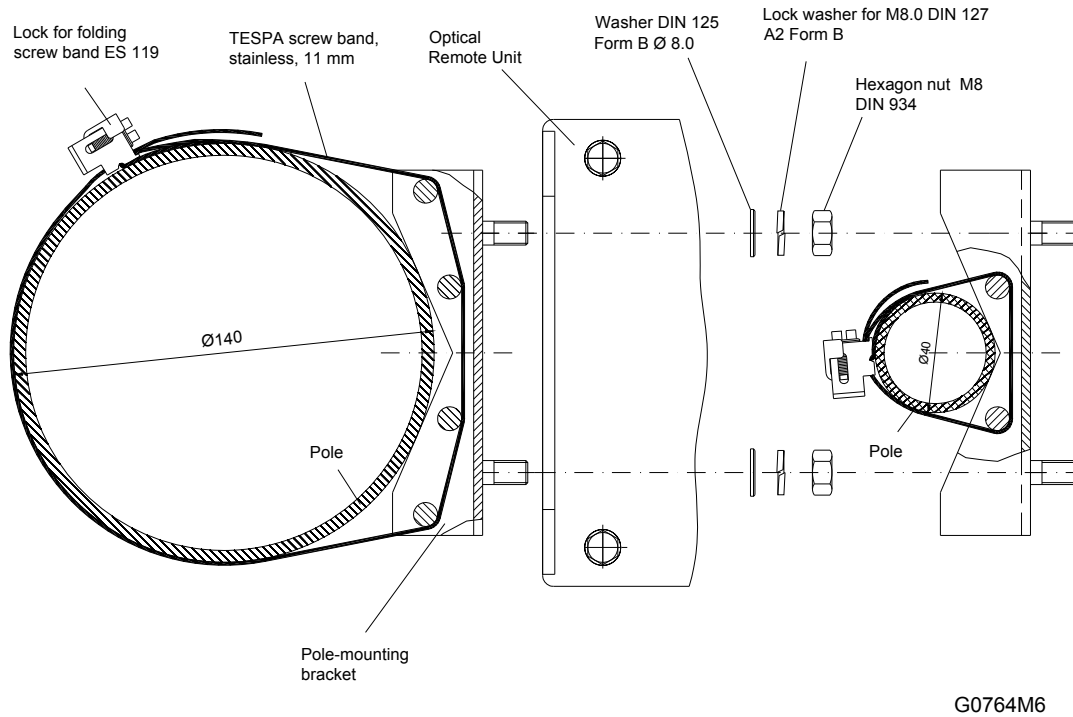

figure 4-3 Pole mounting (metric dimensions)
- Use the screw bands to fasten the two U-beams to the pole as illustrated in *figure 4-3 Pole mounting*.